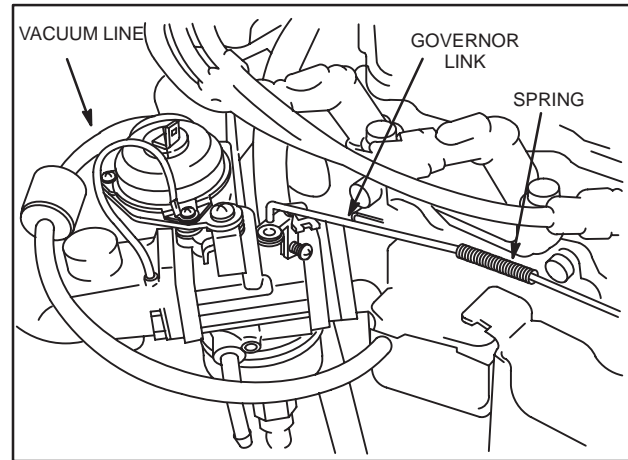

Fig. 26 – Remove Governor Link And Spring
1. Unhook governor link spring from throttle lever and disconnect governor link, Fig. 26.